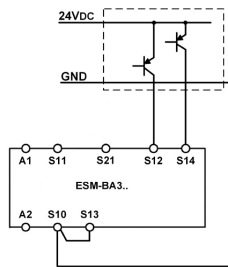
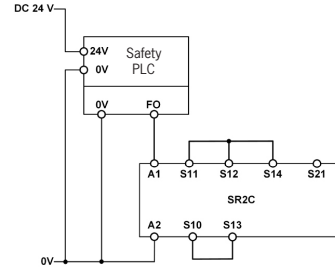

Fig. 9: Dual-channel emergency stop circuit with pnp semiconductor outputs/OSSD outputs with short circuit detection (category 4, up to PL e).
Fig. 10: Connection to fail-safe control system (cat. 4, up to PL e)
- ▶ For applications according to Fig. 9 and Fig. 10, the following must be observed: